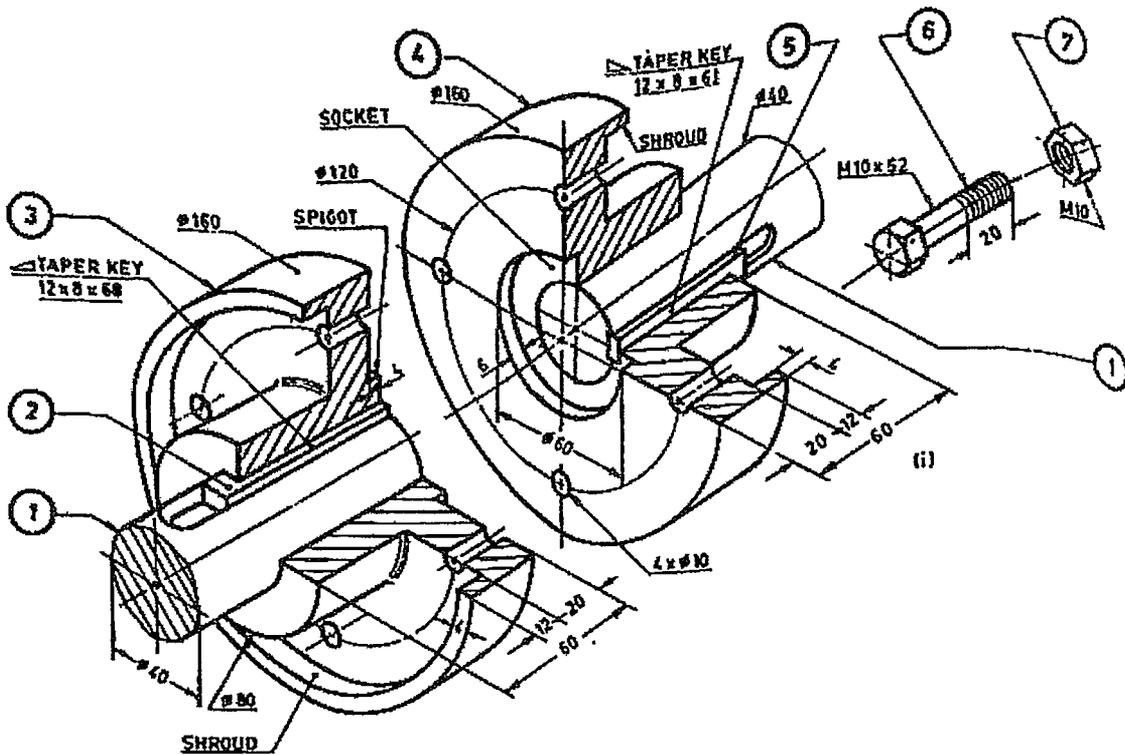

Figure 4
- IV. An isometric view of a flanged coupling (protected type) is shown in Figure 4. Draw the following views: